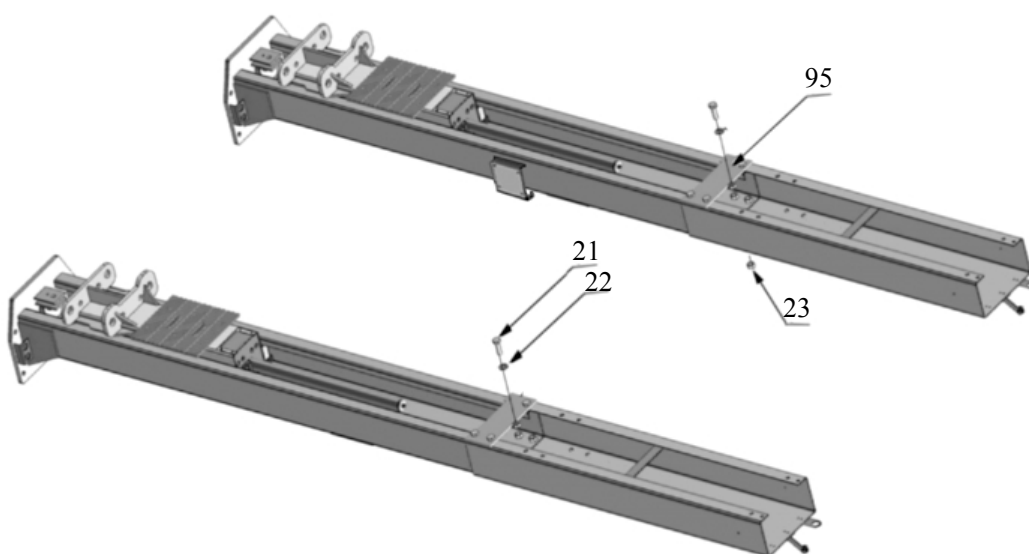

Fig. 18 High Setting
1. High Setting, connecting the extension columns with the lower hole (**See Fig. 18**).